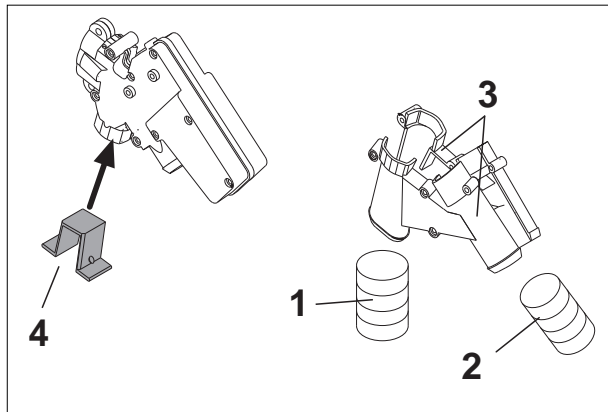

Fig. 24-23
1. Disconnect the return tube (1, fig. 24-23) and seed delivery tube (2) from the combination shut-off valve.
3. Unscrew the air-bleeding housing (3).
4. Insert the cover (4).